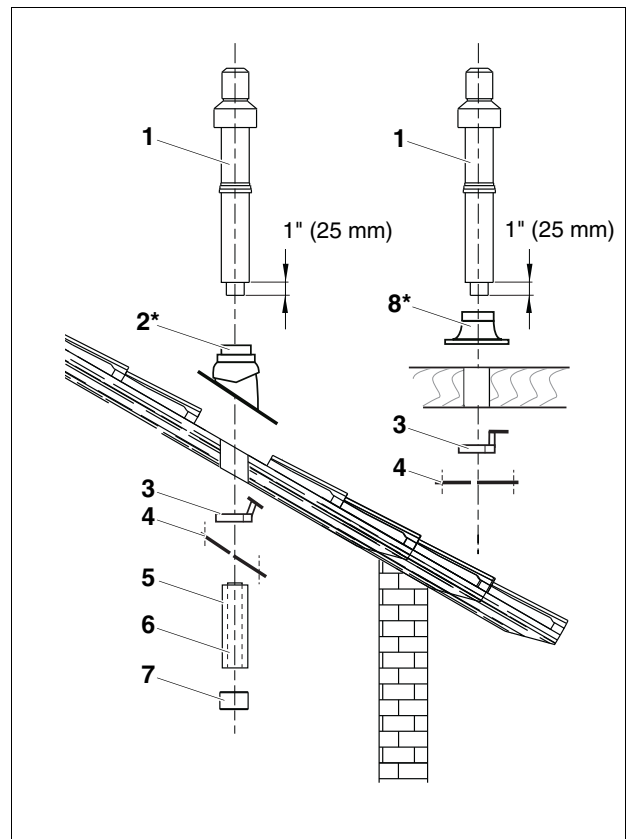

Fig. 7 Installing the roof exit
- Push roof termination (Fig. 7, **Item 1**) through the penetration (Fig. 7, **Item 2***) from above to the stop.
- Push rafter clamp (Fig. 7, **Item 3**) from below above the roof termination and screw onto the rafters.
- Screw two-piece adjustable flashing (Fig. 7, **Item 4**) onto the interior covering of the roof.
Trim roof termination if necessary: do not cut off more than 8" (200 mm) to ensure a minimum insertion depth of 50 mm for the concentric pipe (Fig. 7, **Item 5**).
Carry out the installation as for a pitched roof. Use a flat roof penetration (Fig. 7, **Item 8***, accessory) instead of the universal roof penetration.